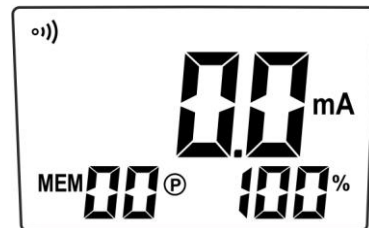

Fig. 20
2. The instrument displays the message “**OL Ω**” as it automatically sets for resistance measurement. Shortly press the multifunction key **▲A** to enter current measuring mode. The screen in Fig. 20 is displayed.